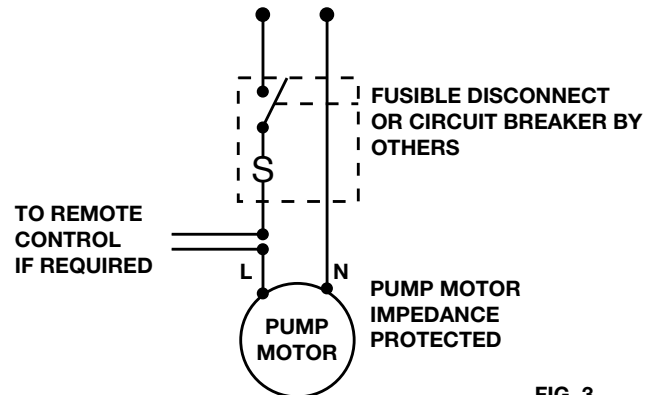

FIG. 3
- Using a minimum size of 14 AWG copper electrical wire (refer to your local code for wiring restrictions), wire the motor to a single phase power source that matches the electrical rating on the pump nameplate. See Fig. 3. Use the size of electrical wire as dictated by local code.